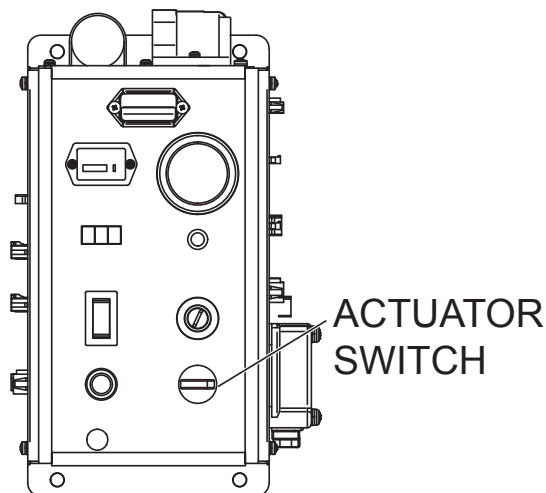

Figure 15. Actuator Switch
2. Turn the actuator switch on the control panel (Figure 15) counterclockwise to tilt the lamp stand up.